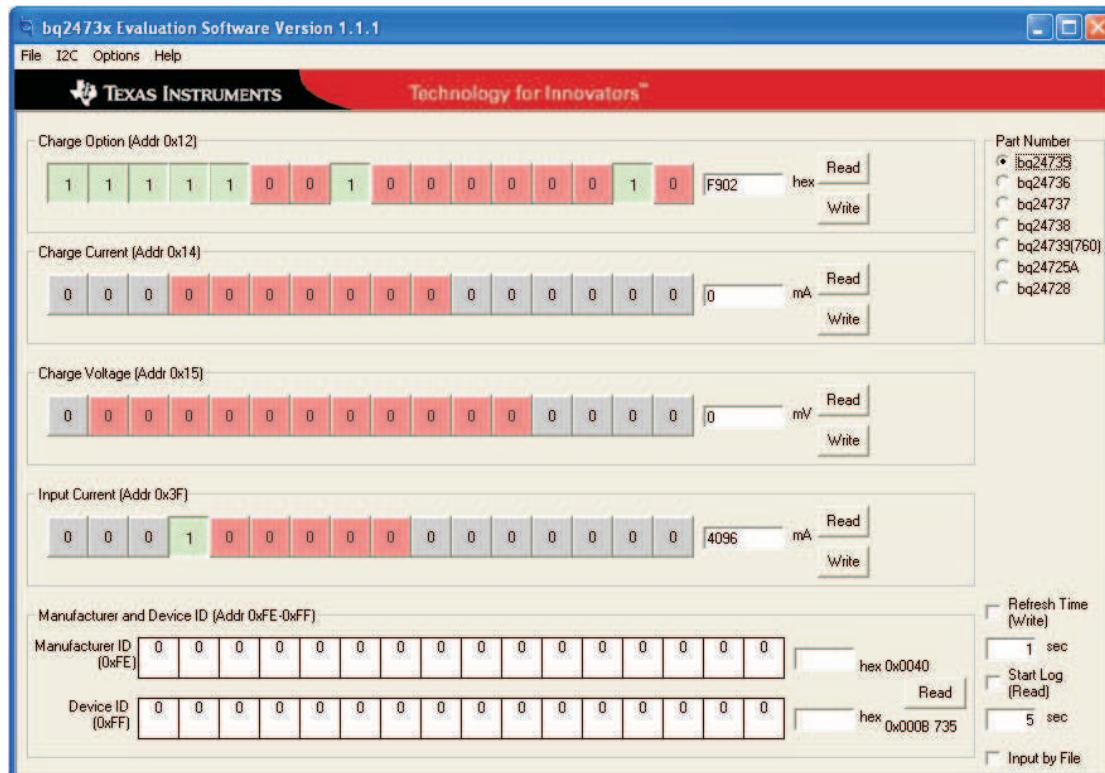

Figure 3. Main Window of bq24725A/735 Evaluation Software
11. Turn on the computer. Open the bq24725A/735 evaluation software. The main window of the software appears as is shown in Figure 3.
- a) Click **OK**. Then, close main window, as shown in Figure 3, and disconnect USB cable.
- d) Open the bq24725A/735 evaluation software. The main window of the software is shown in Figure 3.